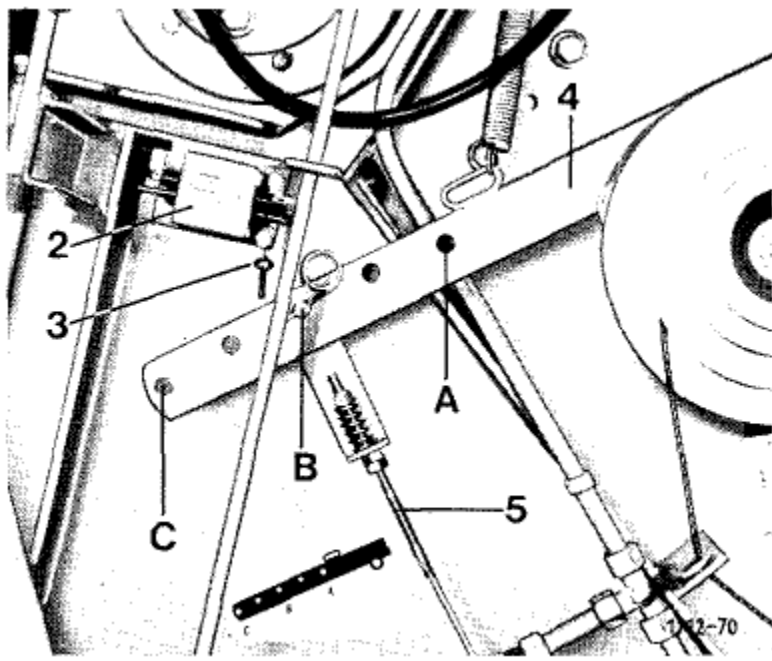

Рис. 14
◇To keep a correct count of ejected bales, the bale counter 2 must be set to zero with key 3 before operation (Fig. 14).
>The required bale density can be pre-selected and set with adjusting lever 4 (Fig. 14). Connecting tension rope 5 into hole A results in low density, position B is for medium density and position C for high density.